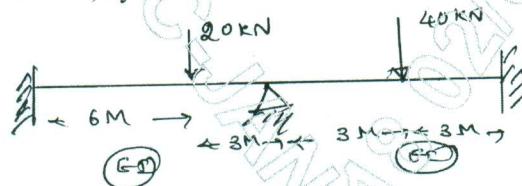

Fig.Q6
- 6 Analyze the beam shown in Fig.Q6 by stiffness method. Generate transformation matrix, system stiffness matrix, system deformation for the same.